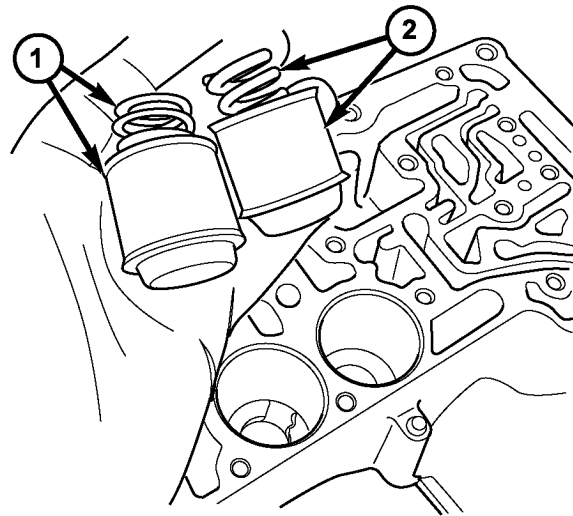

Fig. 152 Underdrive and Overdrive Accumulators
(62) Install underdrive and overdrive accumulators (Fig. 152).